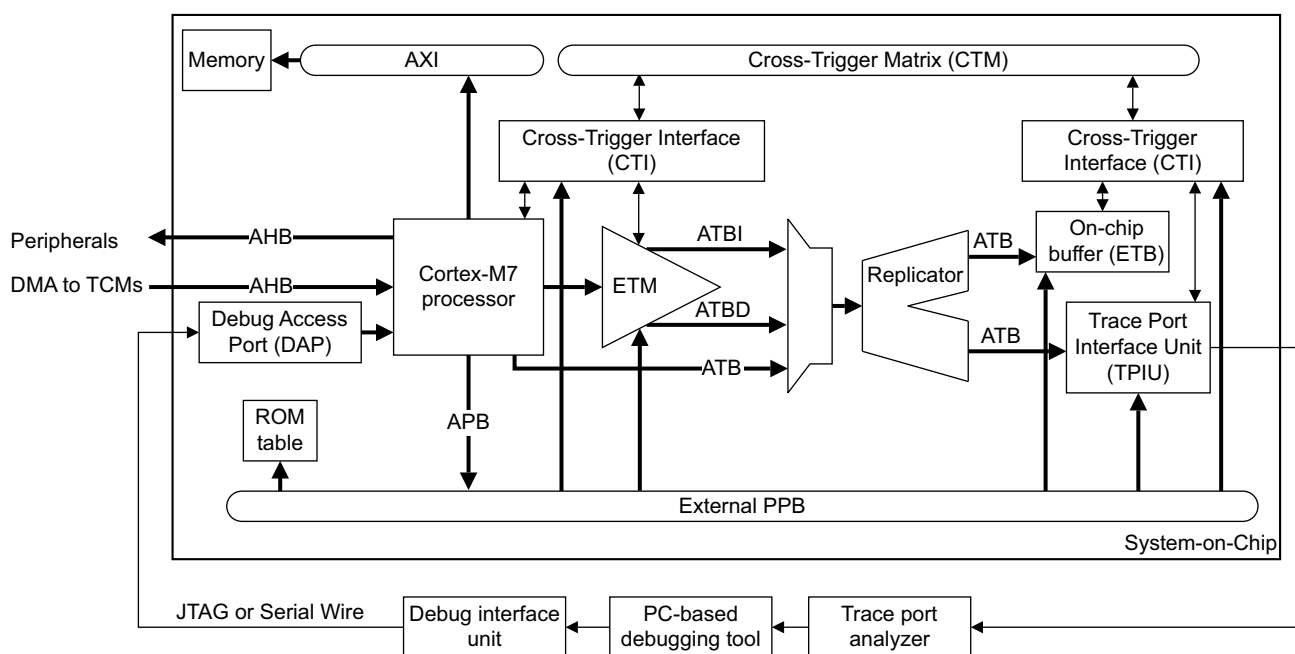

Figure 1-1 ETM-M7 system diagram
- Export the trace information through a trace port. An external *Trace Port Analyzer* (TPA) captures the trace information as Figure 1-1 shows.
Figure 1-1 shows an example of how the ETM-M7 fits into a CoreSight debug environment to provide full trace capabilities in a single processor system. In this example, the external debug software configures the trace and debug components through the *Debug Access Port* (DAP). The top level ROM table contains a unique identification code for the SoC and the base addresses of the components connected to the External PPB. The ETM-M7 trace interfaces are replicated to provide on-chip storage using the CoreSight ETB or output off-chip using the TPIU. Cross-triggering operates through the *Cross Trigger Interface* (CTI) and *Cross Trigger Matrix* (CTM) components.
In Figure 1-1, the arrows on the thick lines show the transaction direction on buses, from master to slave port. Each bus contains individual signals that go from master to slave and other signals that go from slave to master.